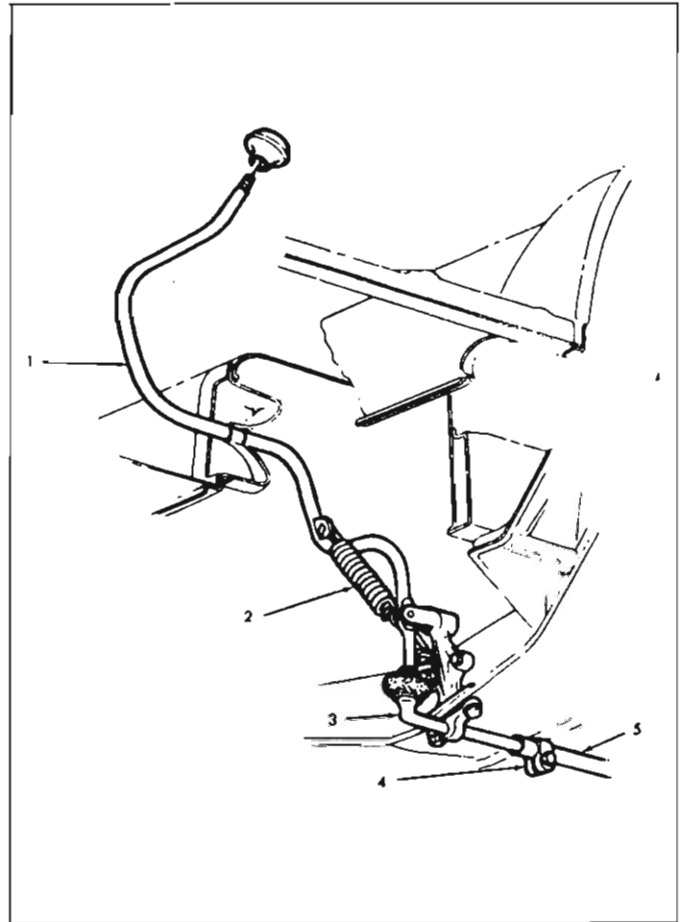

Fig. 6D-2—Gearshift Linkage—1200 Series
Also, Figure 6D-1 shows the proper location of the shift control rod support bracket. The rod support bracket now has a delrin bushing instead of a nylon bushing.
2. Rotate shift control rod to the left of vehicle (clockwise when viewed from front of vehicle) and pull out until third gear is engaged for three-speed transmission, fourth gear in four-speed transmission. Loosen shift control rod coupling nut (fig. 6D-2).